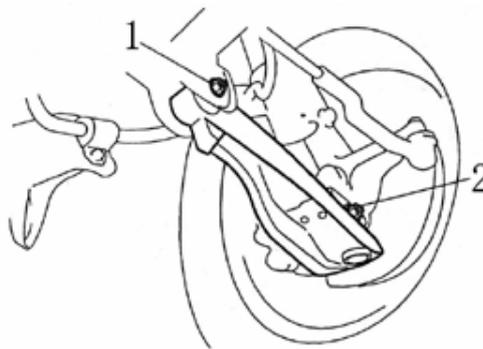

FIG.14-21
- (5) Remove the nut connecting lower arm and crossmember (FIG.14-21).
- (6) Remove the nut connecting lower arm and knuckle (FIG.14-21).
- (2) After inserting ball joint of lower into knuckle hole, tighten nut to specified torque(FIG.14-21).